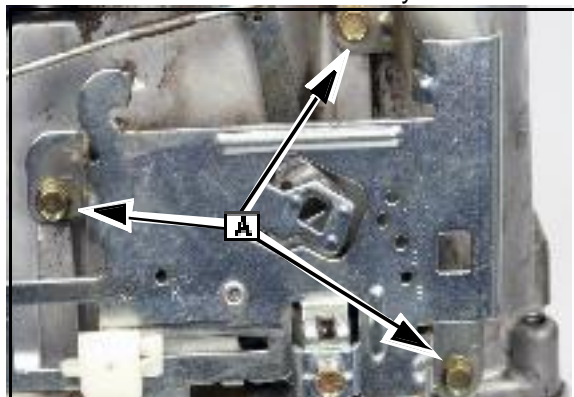

Fig. 15
1. Remove the three screws ([A] Fig. 15) that secure the bracket to the cylinder.